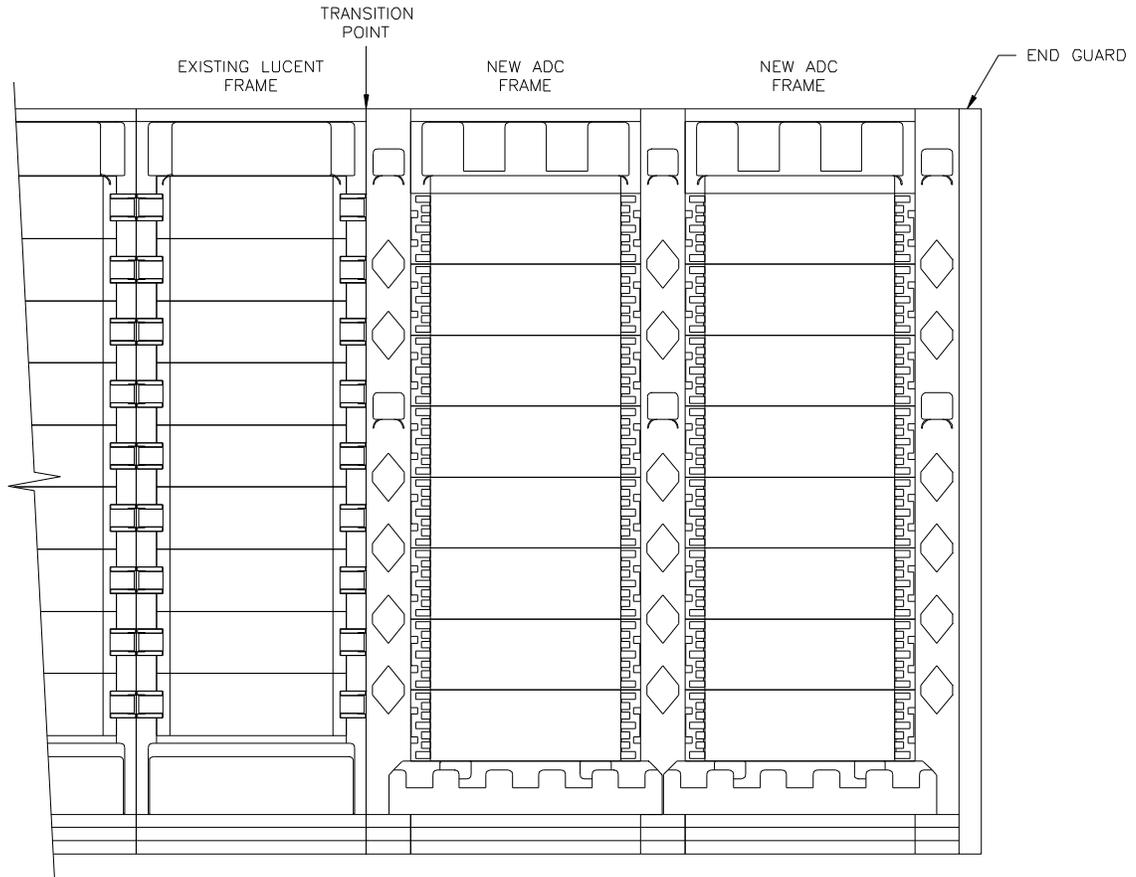

Figure 9-3. Typical Completed Transition
Note: The above FDF frames may be designated as OSP or FOT type frames. Each FOT type frame should have (2) Rear Fiber Storage Panels on the rear side (See Figure 9-3). Ordering Information for the kit is as follows:
9.3.4 The last step is to specify a putty white end guard at the end of the line-up (See Figure 9-3). Ordering Information for the end guard is as follows: